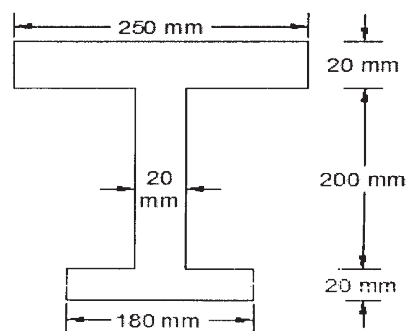

Fig. No. 5
- a) Determine M.I. about X-X and Y-Y axis as shown in Fig. No. 5.